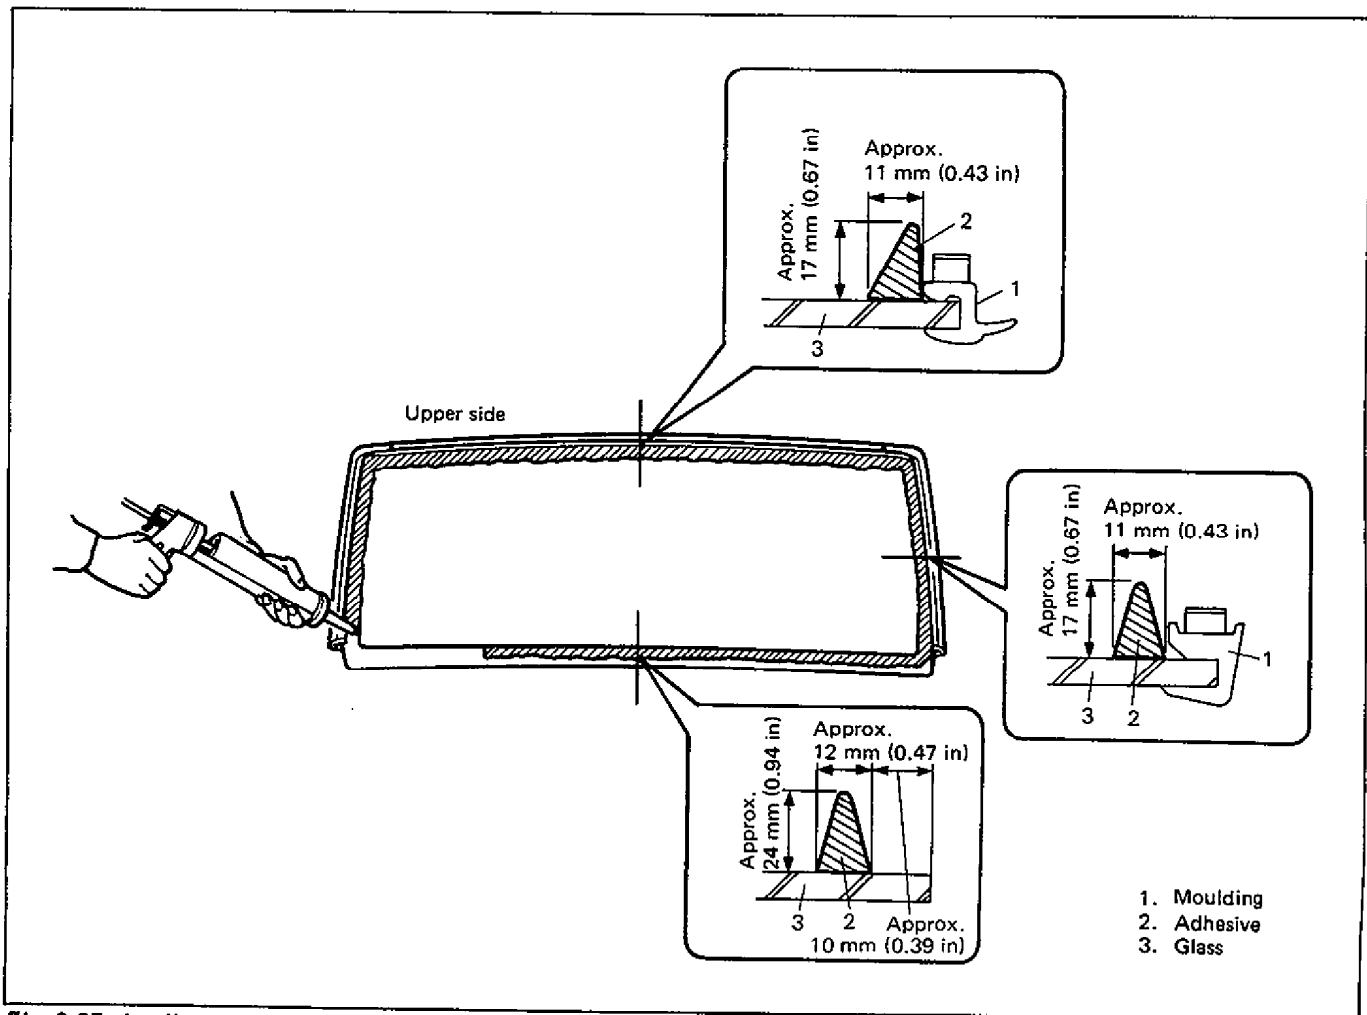

Fig. 9-65 Application of Adhesive
10) Apply adhesive referring to Fig. 9-65.
- For application of adhesive in detail, refer to Fig. 9-65.